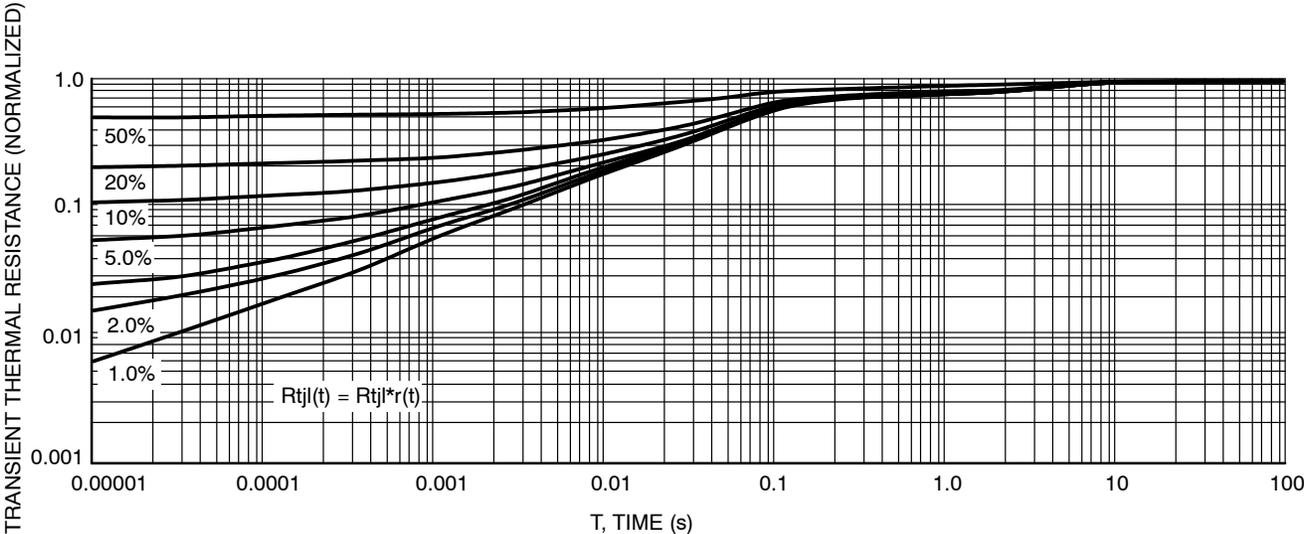

Figure 9. Thermal Response Junction to Lead
1. Mounted with minimum recommended pad size, PC Board FR4, See Figures 9 & 10